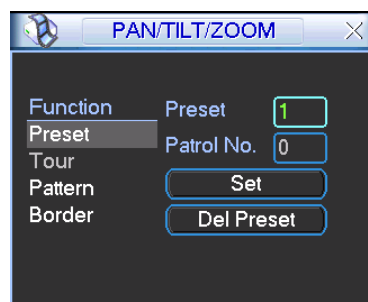
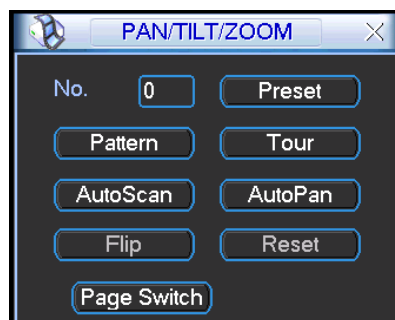
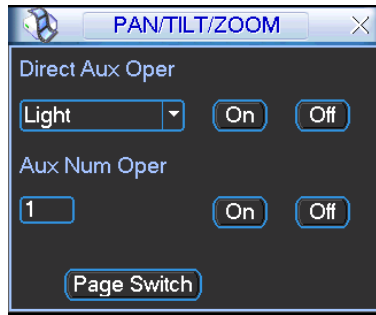

Figure 3-7
Figure 3-8
Figure 3-13
In Figure 3-5, please click the “set” button. The interface is shown as below. See Figure 3-7.
In Figure 3-5, click page switch button, the interface is shown as in Figure 3-8.
- The following setups are usually operated in the Figure 3-5, Figure 3-7 and Figure 3-8.
In Figure 3-7, click preset button and input preset number. The interface is shown as in Figure 3-9.
In Figure 3-8, please input preset number in the No. blank, and click preset button.
In Figure 3-7, click patrol button. The interface is shown as in Figure 3-10. Input preset number and add this preset to a patrol (tour). For each patrol (tour), you can input max 80 presets.
In Figure 3-7, input patrol (tour) number in the No. blank and click patrol button
In Figure 3-7, click pattern button and then click “begin” button. The interface is shown as in Figure 3-11. Then you can go to Figure 3-5 to modify zoom, focus, and iris.
In Figure 3-8, input mode value in the No. blank, and click pattern button.
In Figure 3-8, click “Auto Scan” button, the system begins auto scan. Correspondingly, the auto scan button becomes Stop button. Click stop button to terminate scan operation.
In Figure 3-8, click page switch button, you can see an interface is shown as below. See Figure 3-13. Here you can set auxiliary function. The aux value has relationship with the Aux button of the decoder.